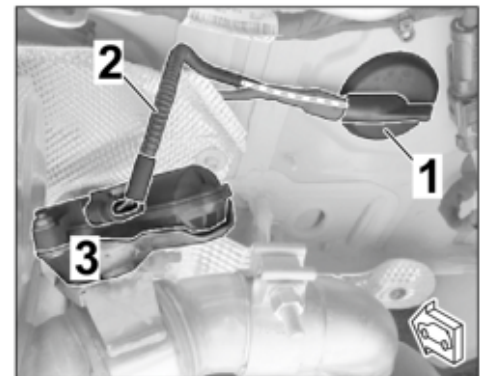

Figure 29
- 3.3.4 **ONLY** if a grommet with several lines is installed on the underside (including an exhaust flap branch (left/right of the standard rear silencer ⇒ Figure 29):